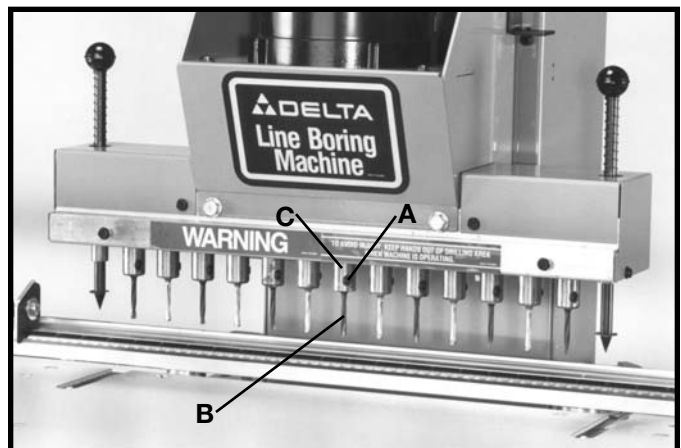

Fig. 36
2. Insert boring bits (B) Fig. 36 (not supplied with boring machine), into spindles (C). Push bit (B) in as far as possible and tighten set screws (A) against flat on bit.
NOTE: With the 13-Spindle Boring Machine, thirteen bits are required, seven right hand rotation and six left hand rotation. A right hand rotation bit is inserted into the center spindle and every other spindle to the right and left. Insert left hand rotation bits into the remaining spindles. Fig. 36 illustrates all thirteen bits assembled to the boring head.